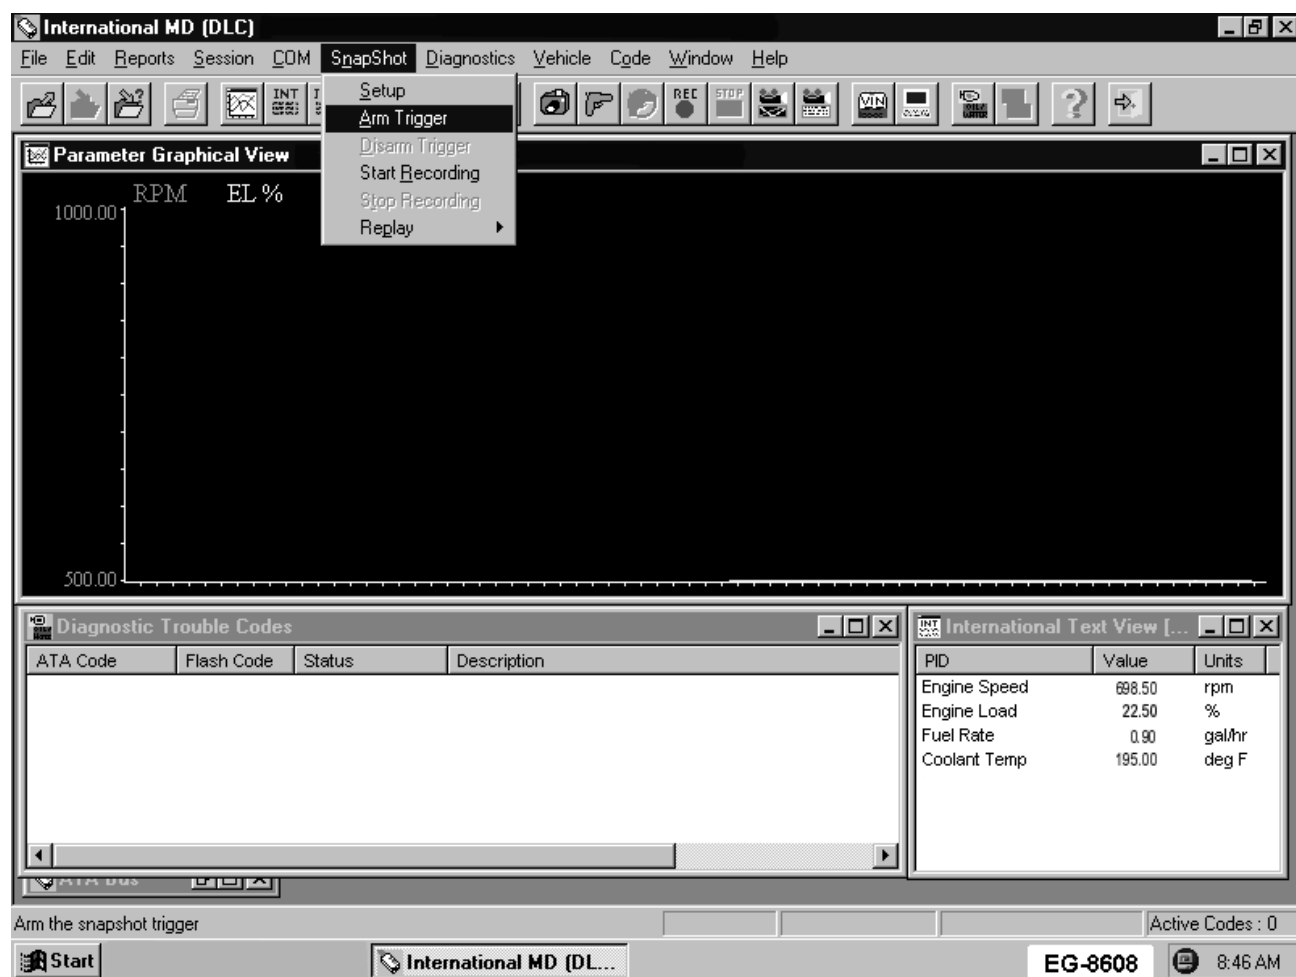

Figure 176
- Select the **SnapShot** drop-down menu and select **Arm Trigger** (See Figure 176, page 372).